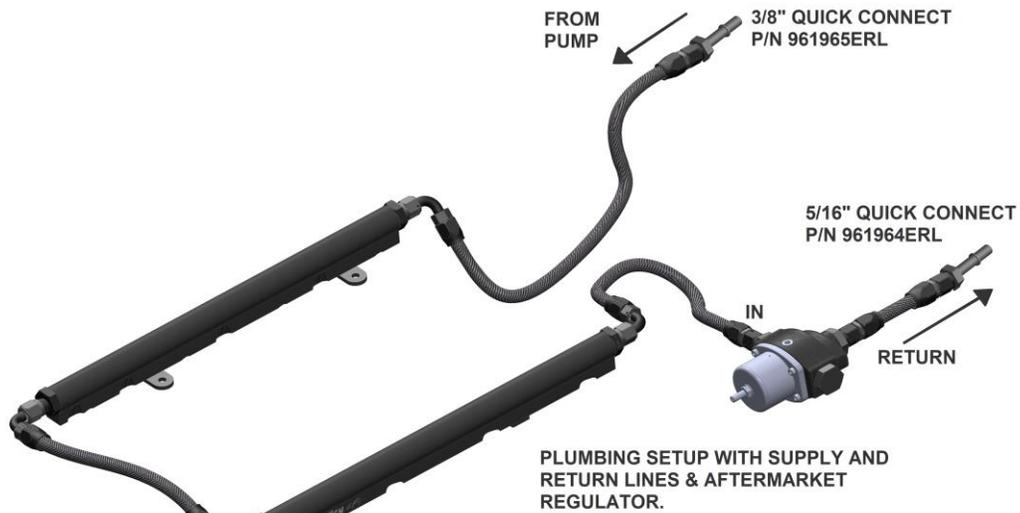

Figure 5
22. Plumbing will vary per application. Below is an example of two configurations (**Figures 5 & 6**). Refer to appendix A and B for hose assembly and routing instructions.